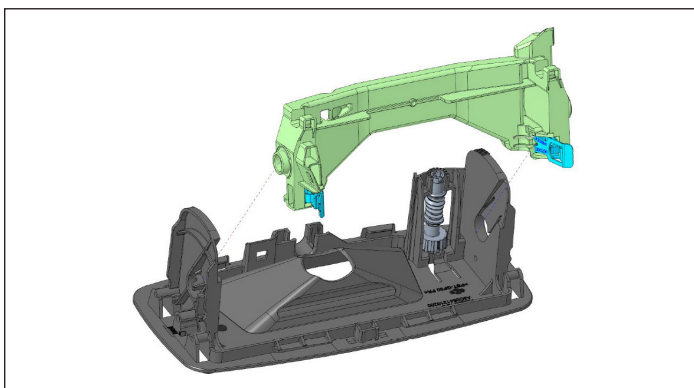

Figure 8 – Holder Removal
4. Once the hub (B) is released from the beam (A), the right side of the holder with the camera can be pulled back from the bracket assembly. This will allow the entire holder and camera to be removed from the bracket assembly. See *Figure 8*. **NOTE:** Only the holder and bracket assembly are shown.